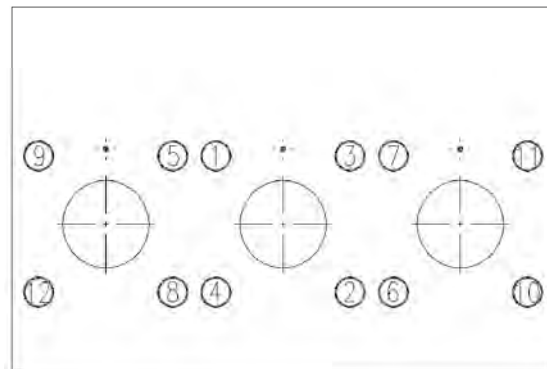

FIGURE 4-1 FLUID END TIGHTENING SEQUENCE
4. As seen in Figure 4-1, label the top row of bolt holes on the frame starting from the left corner to the right corner with the following sequence of numbers: 9, 5, 1, 3, 7, 11.
5. As seen in Figure 4-1, label the bottom row of bolt holes on the frame starting from the left corner to the right corner with the following sequence of numbers: 12, 8, 4, 2, 6, 10.